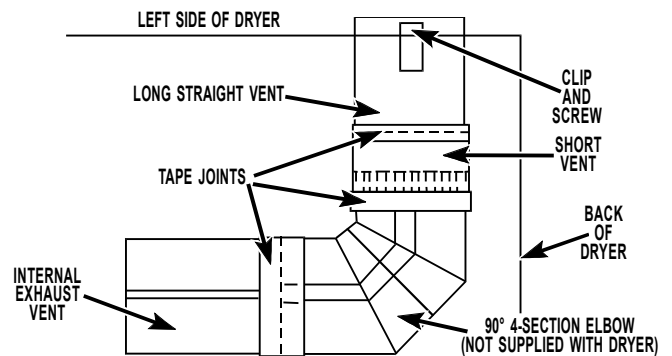

FIGURE 7
- Assemble long & short vent sections provided in kit and seal joint with duct tape. Insert the crimped end of a 4-section elbow (provided in kit) about 1 inch into the short section of straight vent. Due to variations in elbows, you may have to slit the crimped end of the elbow so it will fit into the vent. Insert the elbow end of the vent into the dryer through the left side opening, with the elbow facing the back of the dryer (to clear the motor). Reach through the access panel and attach the end of the elbow over the internal exhaust vent. Seal the joint with duct tape. See Figure 7.